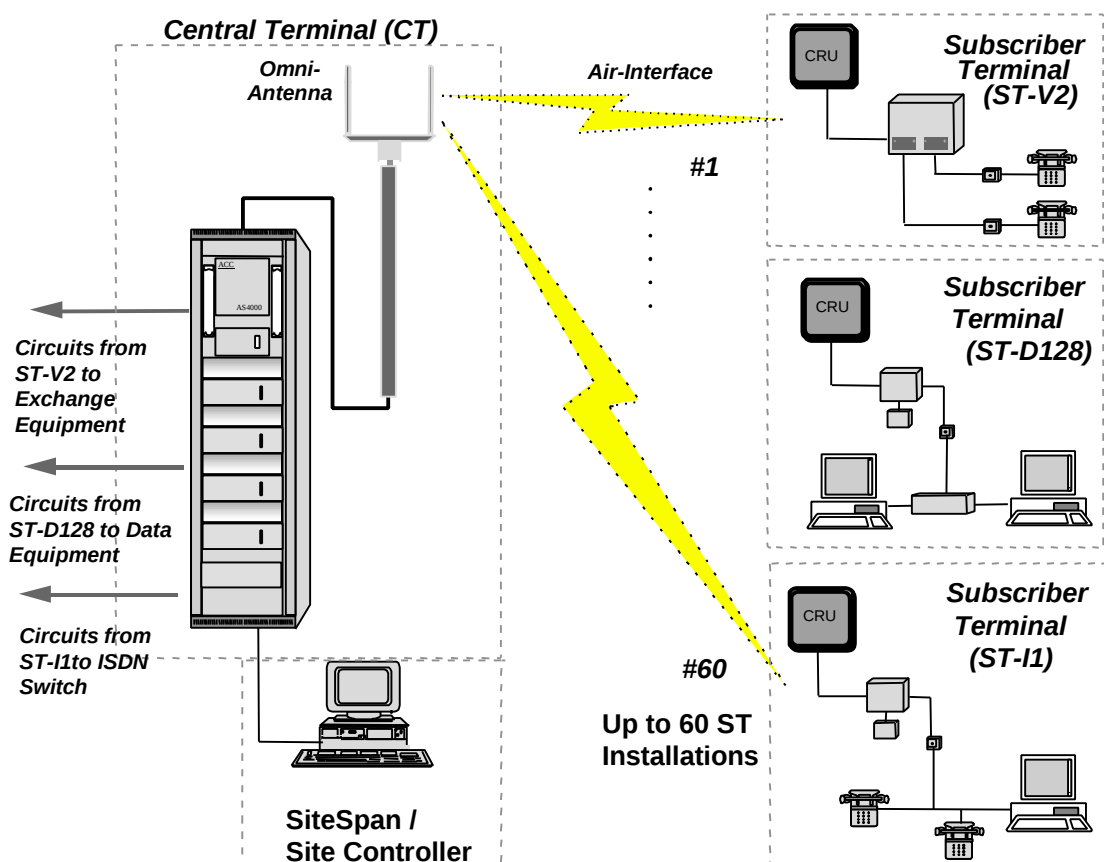

Figure 1. AS4000 System
- The AS4000 System consists of 3 major physical blocks (See Figure 1): Subscriber Terminals (ST)., which are located at the customer's premises up to 60 STs per system; the Central Terminal (CT); and AS8100 Sitespan or the AS8300 Element manager